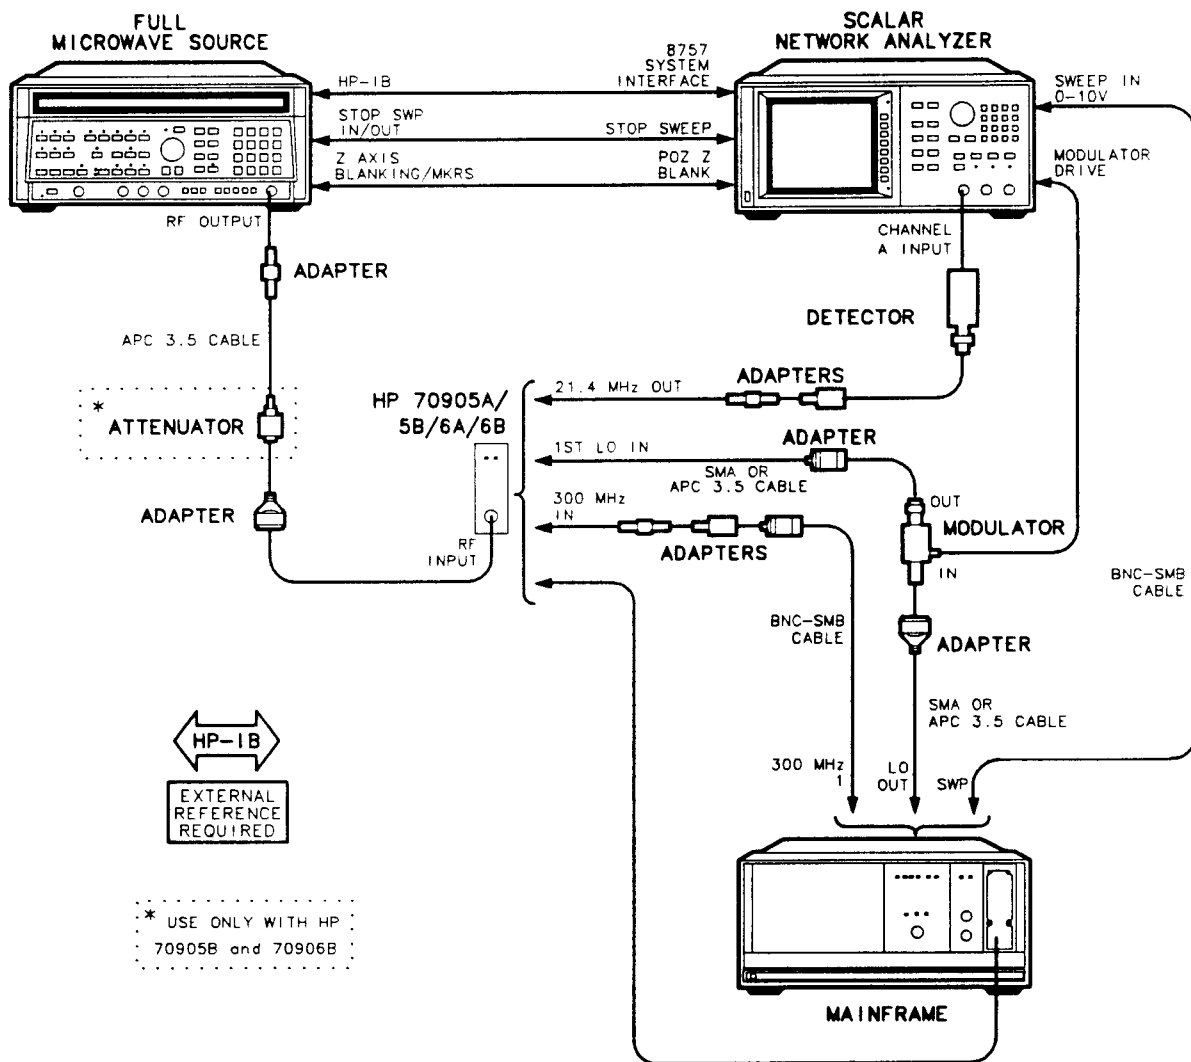
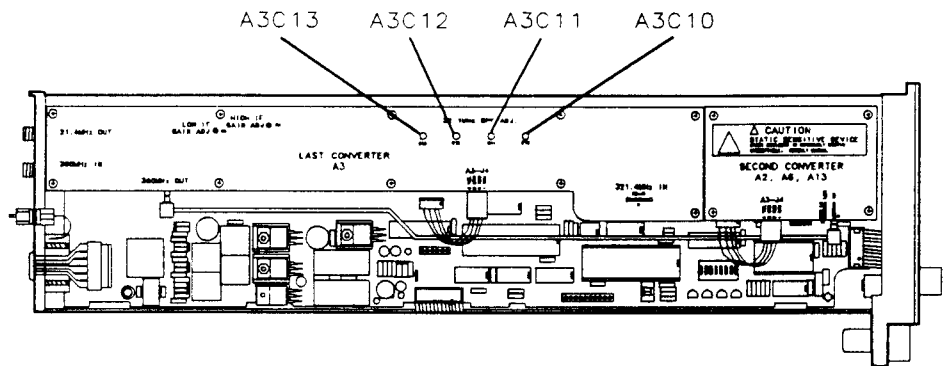

Figure 4-35. Last Converter Bandpass Filter Tune Setup
Figure 4-36. Last Converter Bandpass Filter Tune Locations
3. Remove the side-cover on the left-hand side of the RF section, then connect the equipment as shown in Figure 4-35. Do not connect the interface bus of the network analyzer to the full microwave source. Figure 4-36 illustrates the adjustment locations